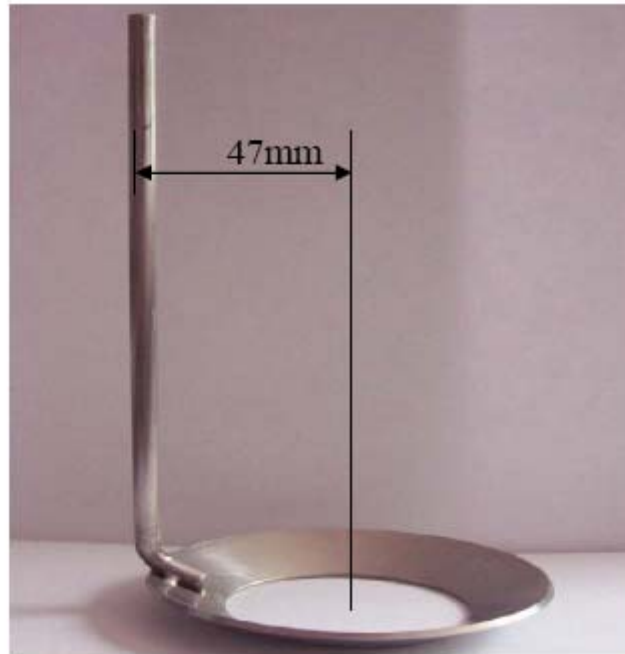

Figure 10 : Detecting loop
3、 Spec of detecting loop: Figure 10